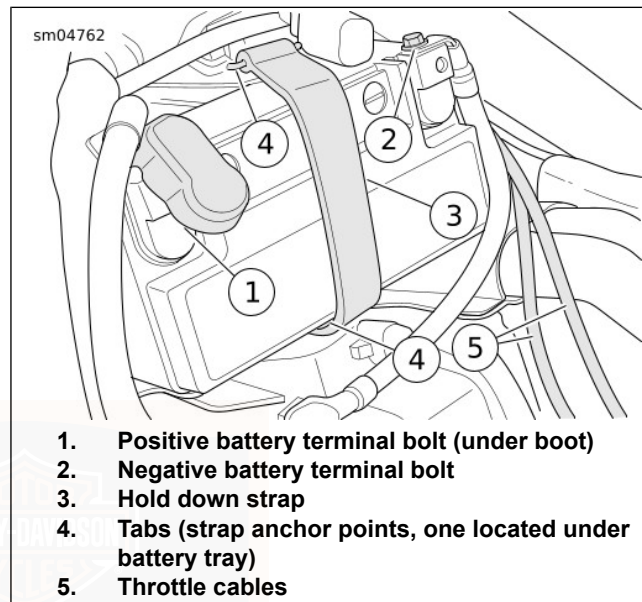

Figure 55. Battery
8. See Figure 55. Remove the battery negative cable from the negative terminal of the battery.
3. See Figure 55. Slide the fully charged battery into battery caddy, terminal side up, negative battery terminal toward the right side.
4. See Figure 55. Verify proper routing of throttle cable.